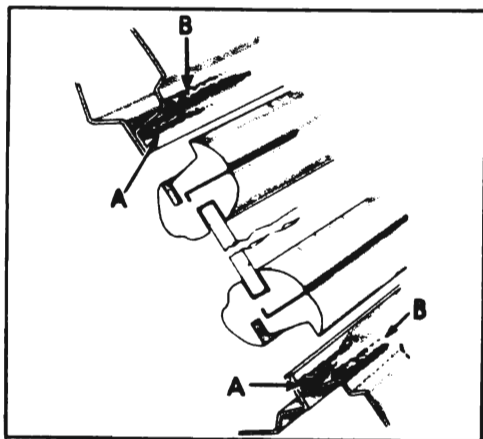

Figure 13-32—Location of Back Window Sealing Compounds
3. Apply a continuous $\frac{3}{16}$ " bead of 3-M Auto-body Sealer in outer corner of pinchweld flange, completely around the opening, as indicated at "A" in figure 13-32.
4. Apply a continuous $\frac{3}{16}$ " bead of 3-M Weatherstrip Adhesive to outer corner of window opening rabbet, completely around the opening, as indicated at "B" in figure 13-32.